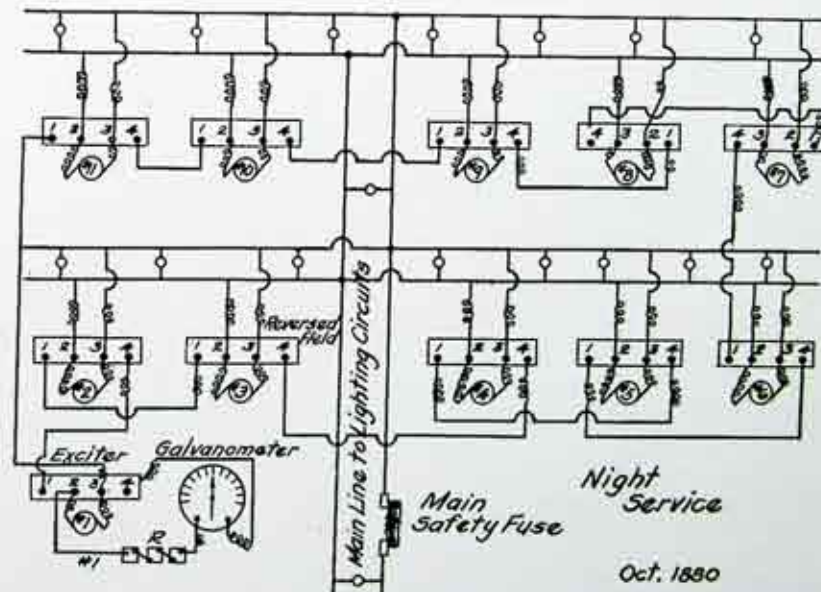

Fig. 4. Ten dynamos connected in multiple with one exciter, as used for the original exhibition lighting (Menlo Park) from 5 P. M. to midnight.
A. M. to 5 P. M., usually covered three kinds of service as shown in figures 1, 2 and 3. Fig. 4 shows connections for night service.